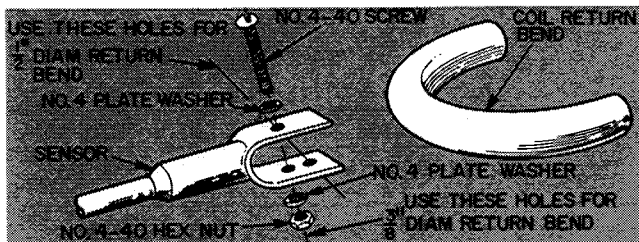

Fig. 2 — Sensor Installation
The Motormaster control consists of a solid-state circuit on a printed circuit board encased in an aluminum extrusion. The control must be fastened to a panel on the unit, and the sensor assembly (Fig. 1) mounted to a return bend on the unit's condensing coil (Fig. 2). A wire from the sensor is connected to the circuit board control box with wire nuts.
Mounting Sensor — Mount sensor on a condenser coil return bend as shown in Fig. 2.
3. Secure sensor on coil return bend with no. 4-40 screw, 2 plate washers and nut (supplied) as shown in Fig. 2.